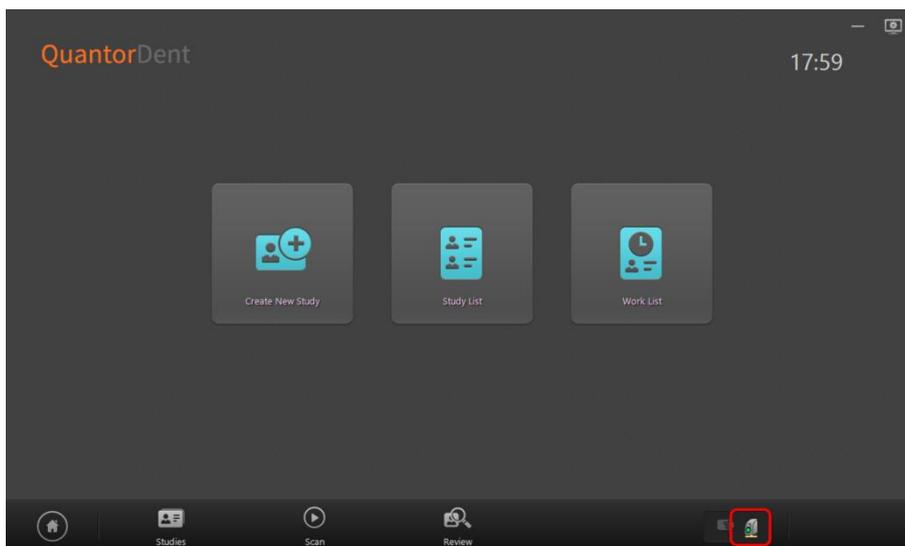

Figure 6.16 Scanner found on the network, but not connected
3. Start the QuantorDent Program. If idle scanner is detected on the network, Scanner indicator will set to yellow as Figure 6.16.